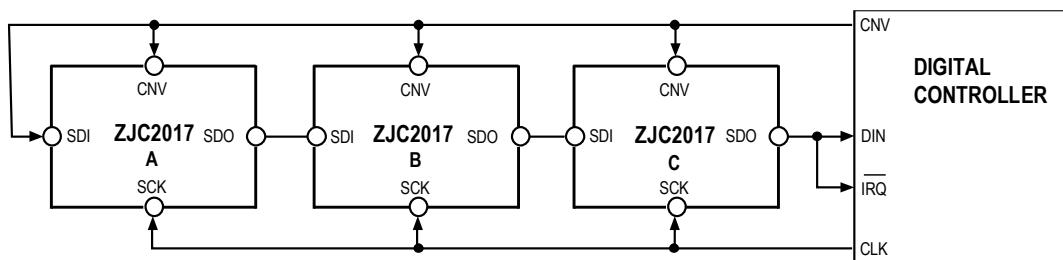
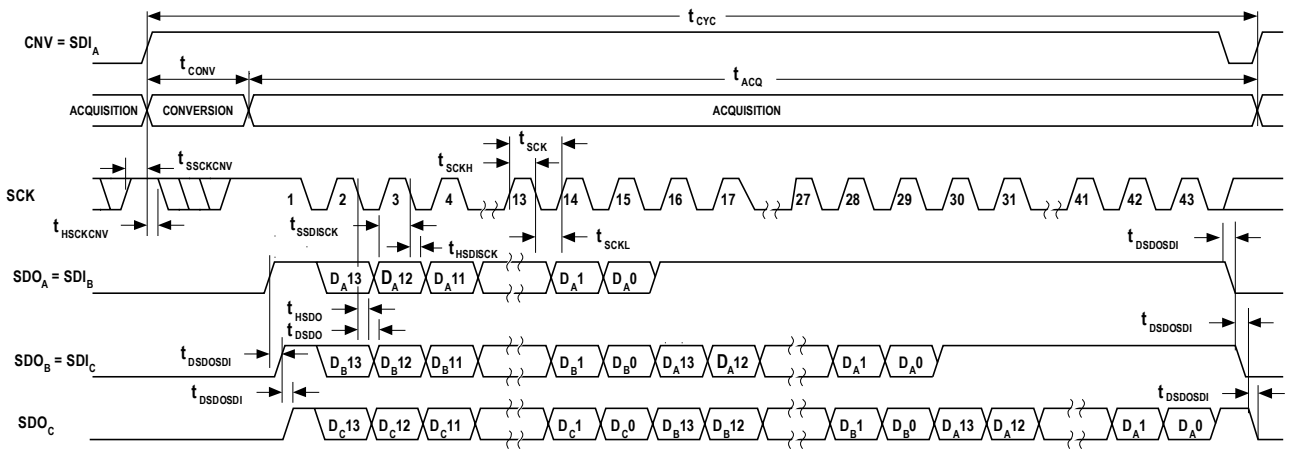

Figure 47. Chain Mode (with Busy Indication) Connection Diagram
Figure 48. Chain Mode (with Busy Indication) Serial Interface Timing
- In chain mode, SCK is high during the rising edge of CNV (see Figure 48).
An example using three ZJC2017s is shown in Figure 47, and the corresponding timing is shown in Figure 48.
When SDI and CNV are low, SDO goes low. With SCK high, a rising edge on CNV initiates a conversion, selects chain mode, and enables the busy indicator feature. In this mode, CNV remains high during the conversion phase and subsequent data readback. After all the ADCs in the chain have completed their conversions, drive the SDO pin of the ADC closest to the digital host (see Figure 47). This transition on SDO can be used as a busy indicator to trigger data readback. ZJC2017 then enters the acquisition phase and is on stand-by. The remaining data bits stored in the internal shift register are clocked out MSB first on subsequent SCK falling edges. For each ADC, SDI feeds the input of the internal shift register and is clocked out by SCK falling edge. Each ADC in the chain outputs data MSB first, and $14 \times N + 1$ clocks are required to read back N ADCs.